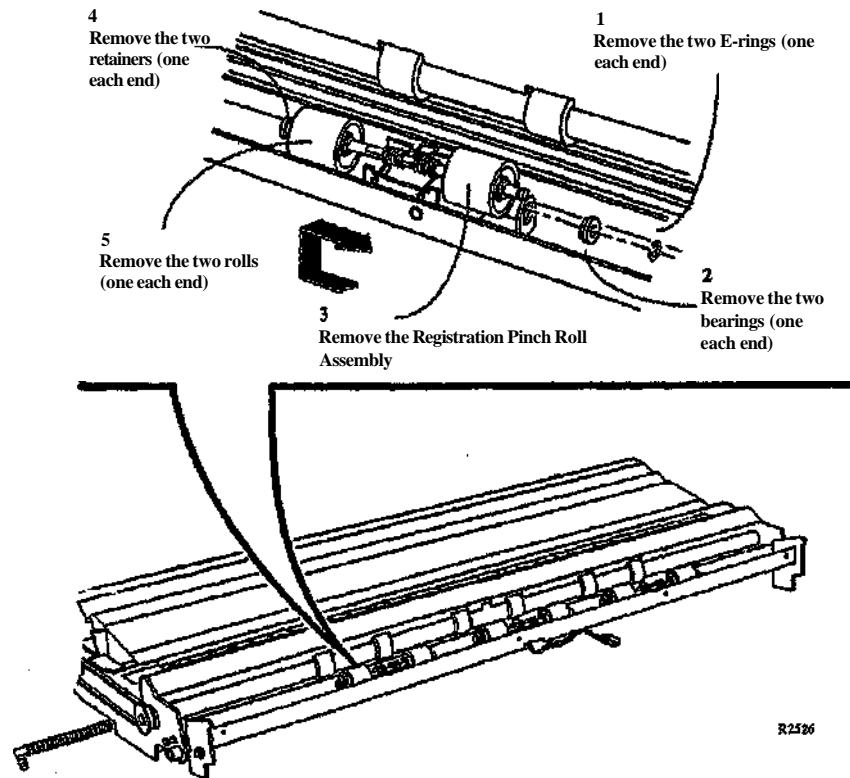

Figure 2. Removing the Registration Pinch Rolls
4. (Figure 2): Remove the Registration Pinch Rolls.